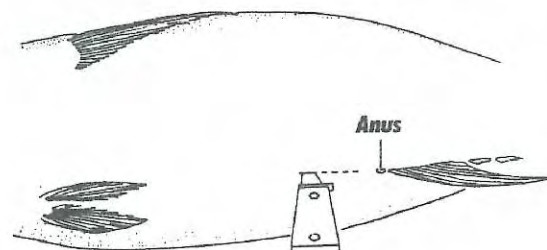

Figure 9. Insert knife 4 inches in front of the anus, and then cut towards it.
- Step 1** Make a straight, 4 inch slit in the belly, cutting towards the anus (Figure 9).